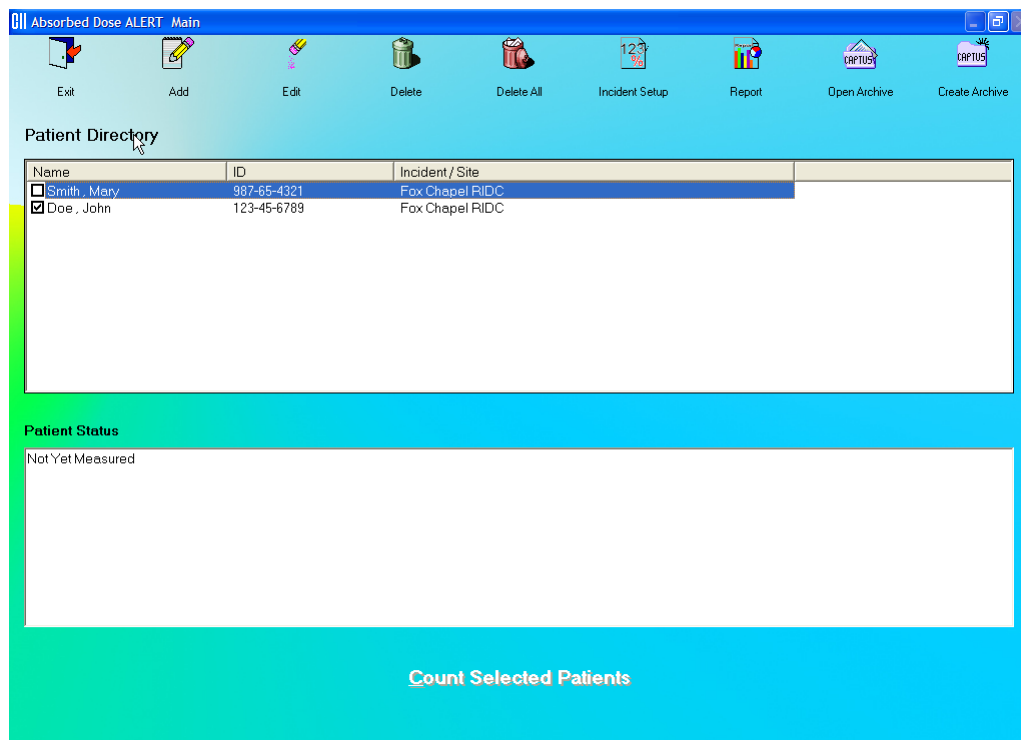

Figure 9-14
1. To select (highlight) a patient to be edited, use the ↑ and ↓ keys or *Page Up* and *Page Down* keys to move up or down in the patient list. If the list is long, the scroll bar is also available. To reach a particular patient, press the first letter of the patient name. Press the ↓ key if necessary, to go further down (Figure 9-14).